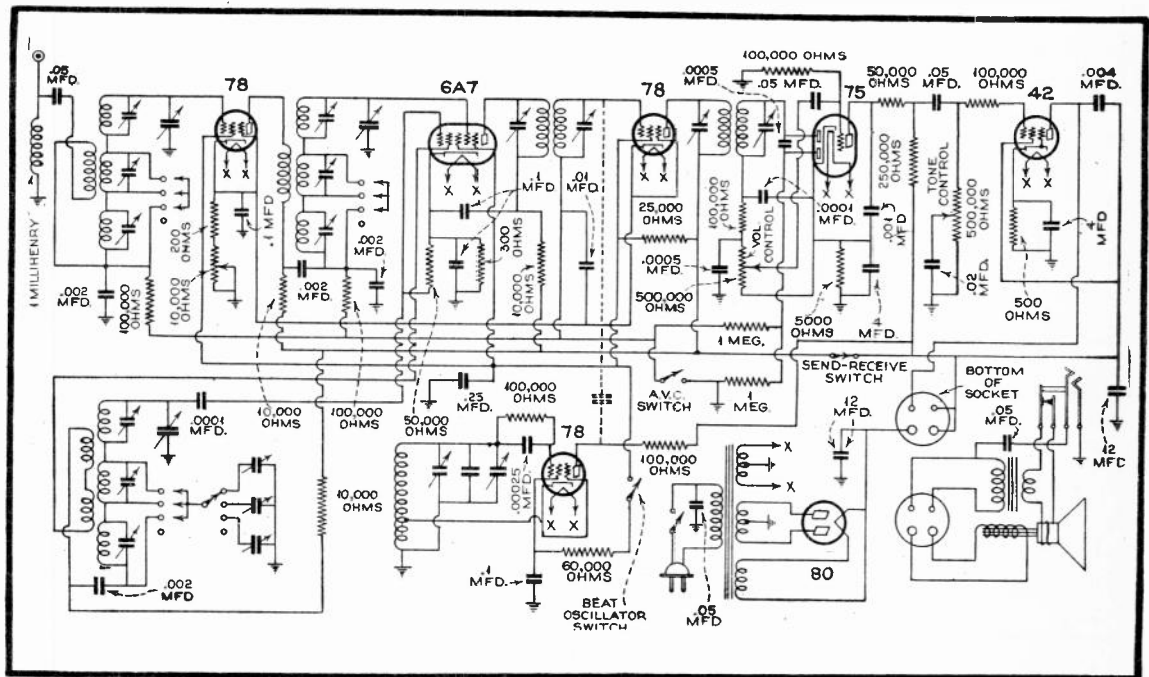
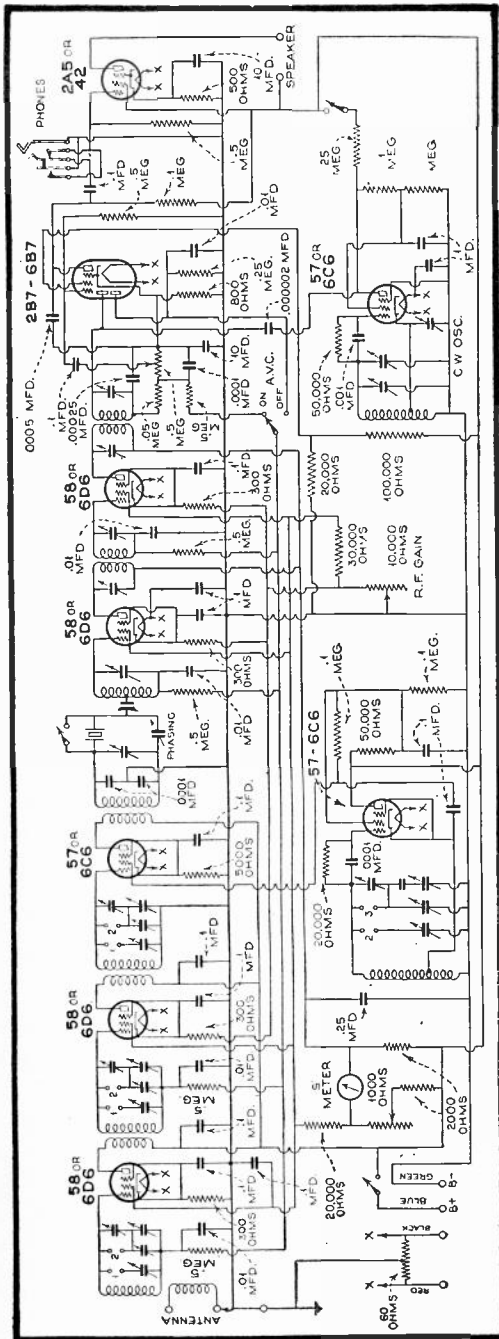

FIG. 10
FIG. 11
IN FIG. 10 YOU ARE SHOWN THE CIRCUIT DIAGRAM OF A SEVEN-TUBE SUPERHETERODYNE WHICH BY MEANS OF A BAND-SWITCH PROVIDES THE THREE FOLLOWING FREQUENCY RANGES: (1) FROM 540 TO 1700 Kc.; (2) FROM 1650 TO 4300 Kc.; AND (3) FROM 5.5 TO 18 MEGACYCLES. IN OTHER WORDS, THIS WOULD BE CLASSIFIED AS AN ALL-WAVE RECEIVER.
IN FIG. 11 YOU ARE SHOWN THE COMPLETE CIRCUIT DIAGRAM OF THE NATIONAL "HRO" COMMUNICATION TYPE RECEIVER AND WHOSE PICTURE APPEARS IN FIG. 1 AND 2 OF THIS LESSON. BY STUDYING FIG. 11 CAREFULLY, YOU WILL OBSERVE THAT THIS RECEIVER EMPLOYS BOTH A C.W. OSCILLATOR AND A CRYSTAL FILTER, AS WELL AS MANY OTHER INTERESTING FEATURES.
THE POWER PACK FOR THIS RECEIVER IS AN INDEPENDENT UNIT, HOUSED SEPARATELY FROM THE RECEIVER AND IS CONNECTED TO THE RECEIVER THROUGH THE HEATER AND "B" TERMINALS WHICH APPEAR IN THE LOWER LEFT HAND CORNER OF FIG. 11.
THE SWITCH WHICH APPEARS IN THE B+ LEAD IN FIG. 11 IS A "STAND-BY" SWITCH AND SERVES THE SAME PURPOSE AS THE EQUIVALENT SWITCH IN THE CIRCUIT OF FIG. 10. A SWITCH IS ALSO HERE PROVIDED SO THAT THE A.V.C. ACTION CAN BE USED OR NOT AS DESIRED. A SENSITIVITY OR R.F. GAIN CONTROL IS SUPPLIED IN THE FORM OF A 10,000 OHM RHEOSTAT WHICH IS CONNECTED IN SERIES WITH THE CATHODE CIRCUITS OF SOME OF THE R.F. TUBES AND B-, WHILE THE REGULAR VOLUME CONTROL IS IN THE FORM OF A .5 MEG. POTENTIOMETER IN THE A.F. CIRCUIT OF THE 2B7 OR 6B7 TUBE. PROVISIONS ARE ALSO MADE FOR THE USE OF EITHER A LOUD SPEAKER OR HEADPHONES.